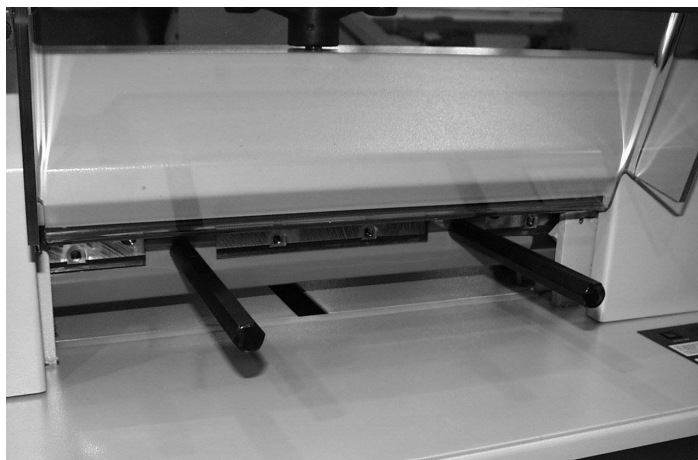

Figure 14
3. Remove the two knife bolts from the slotted knife bar holes ONLY and replace with the knife lifter assembly (Figure 14). Tighten the lifters to hold the knife in place, and then remove the remaining four knife bolts.